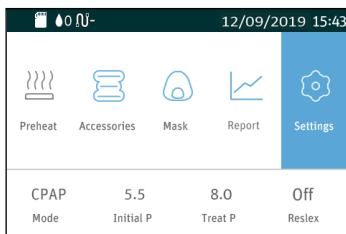
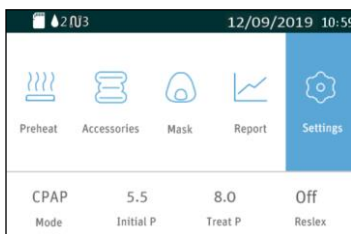
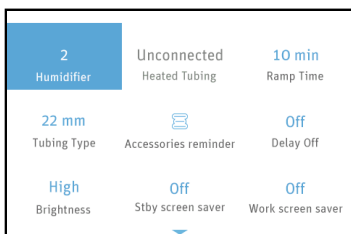

Fig. 15-1
Fig. 15-3
Fig. 15-4
(1) Turn on the device. The device screen displays the Main Interface shown in Fig. 15-1.
(1) Turn on the device. The device screen displays the Main Screen shown in Fig. 15-1. Turn **the Knob**  until the cursor is on the icon , and the screen displays the Initial Setup Interface shown in Fig. 15-3. Press **the Knob** , and the first option on the Initial Setup Interface turns blue, as shown in Fig. 15-4.